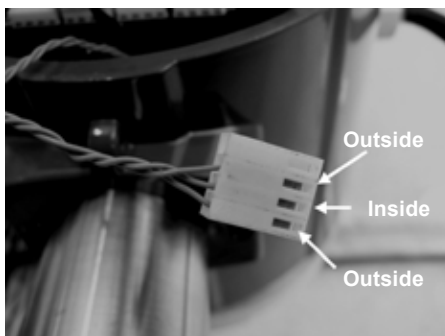

Fig. 54 Turbine Sensor Connector
3. Using ESD precautions and hazardous area precautions, remove the electronics enclosure window cover. Disconnect the turbine sensor from the electronics stack or remote feed through board. Refer to Figure 54. Measure the resistance from each outside pin to the meter ground should read a very low resistance. Measure the resistance from the center pin to the meter ground - this should be grounded to the meter.